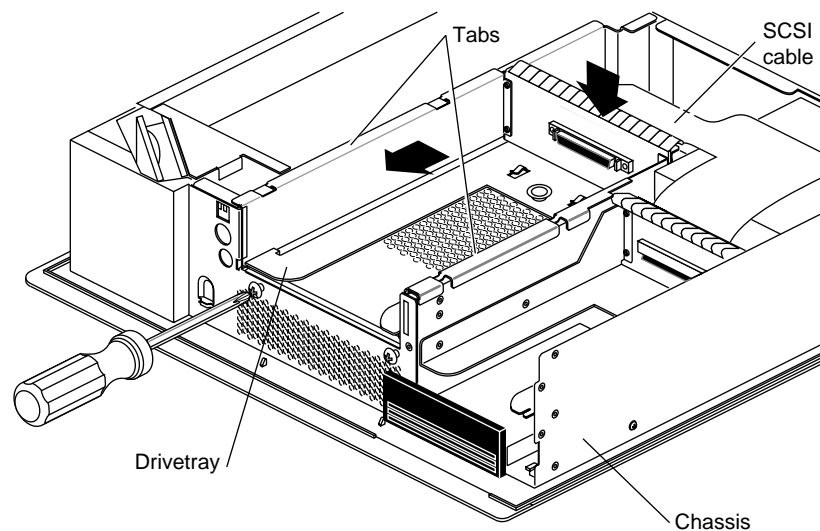

Figure 3-27 Replacing the 5-1/4" Drive Tray
- Position the drive and tray so the tabs on the sides of the tray fit inside the slot openings in the chassis, and the open side of the tray faces the front of the workstation. See Figure 3-27.